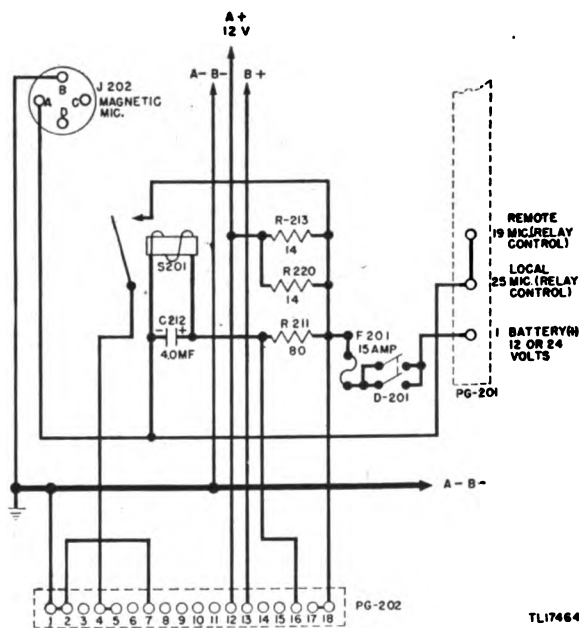

Figure 20. Interphone Amplifier BC-605-(*), power controls.
23. Parts List for Power Control Circuit (fig. 20)